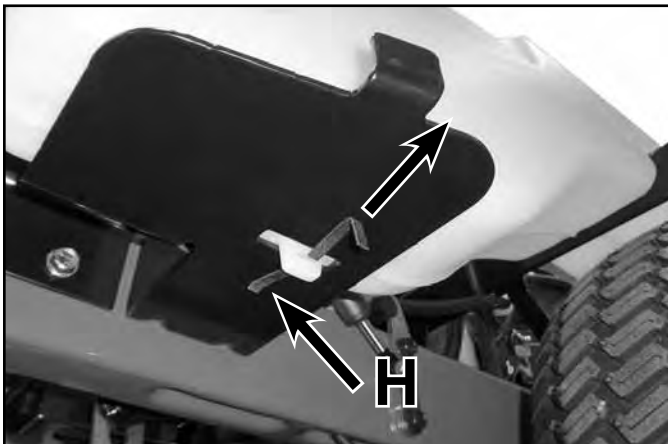

Fig. 014
3. Remove the (2) fuel tank retaining springs (H) by pulling them outward (Fig. 014).